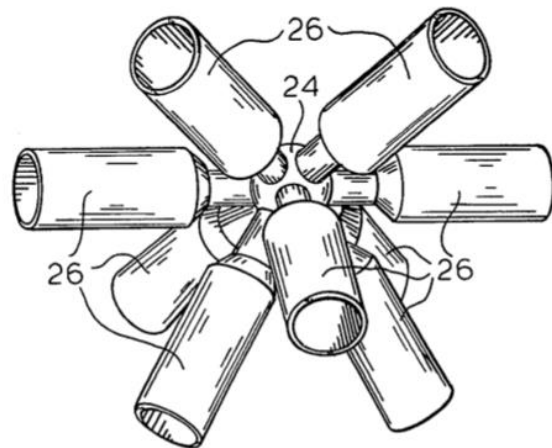

FIG.3
A representative Orba Hub is shown in patent Figure 3. The spherical hub (24) provides a secure connection point for many cylindrical struts with tapered end fittings (26).